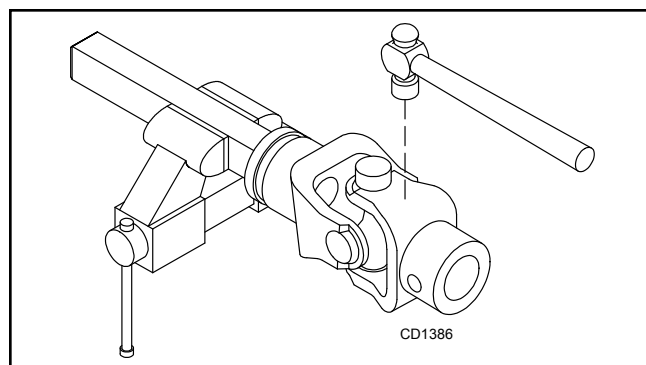

Figure 32. Remove Bearing Cups
2. With snap rings removed, support drive in vise, hold yoke in hand and tap on yoke to drive cup up out of yoke. See Figure 32.